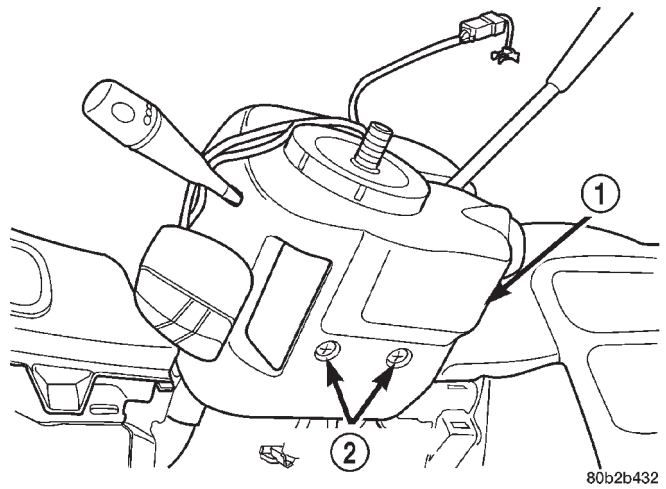

Fig. 69 Lower Shroud Attaching Screws
(6) Remove the 2 screws attaching the lower shroud to the steering column (Fig. 69). Remove the lower shroud from the steering column.
(7) Install the lower shroud (Fig. 69) on the steering column. Install and securely tighten the 2 screws attaching the lower shroud to the steering column.